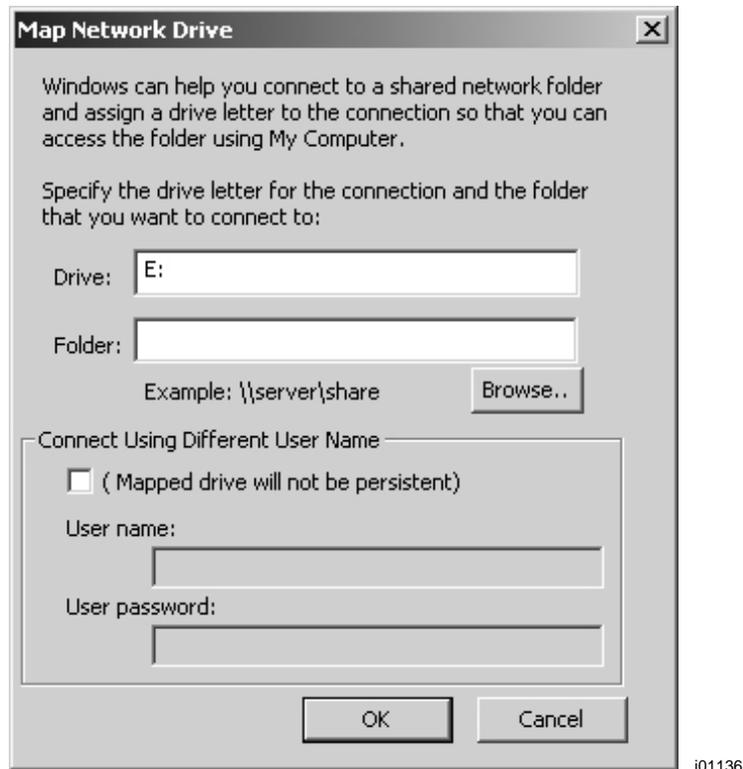

Figure 15.12.6 Enter E: in the Drive box and Browse for the file you shared on your computer.
3. In the Drive box, type in "E:" You must type in both the "E" and the ":". See Figure 15.12.6 below. (Drive letters A through D are used by other drives.)